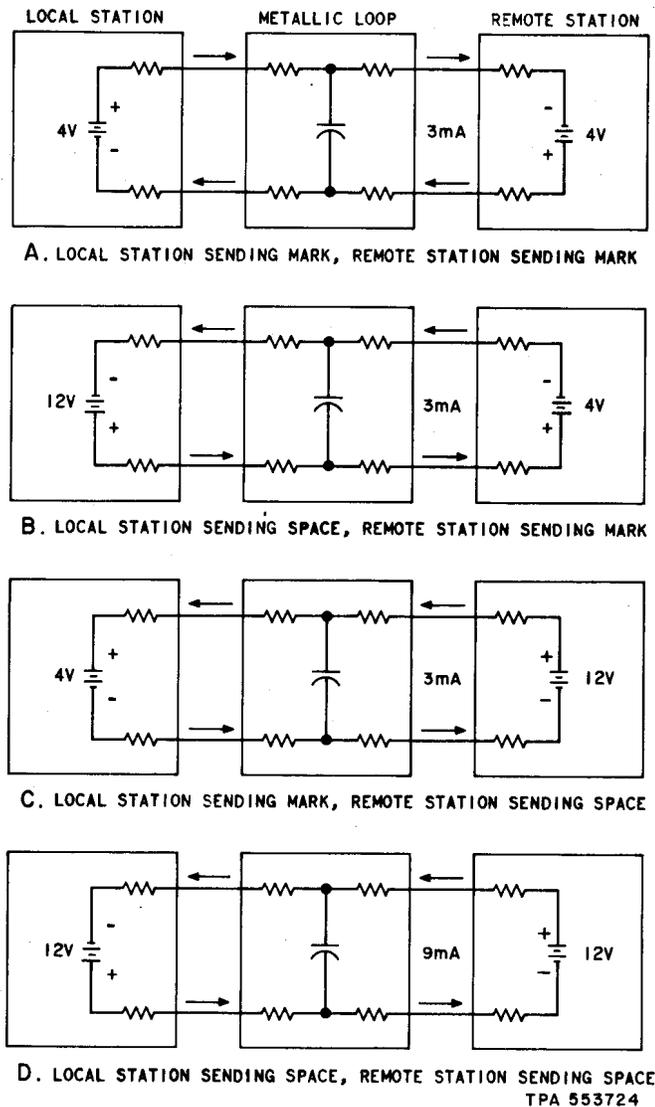

Fig. 4—Transmission States of a Data Set 109-Type, Full-Duplex (FDX) System
3.05 In transmission state 1, both data sets apply a marking voltage of +4 volts dc to the loop, resulting in a net sum of +8 volts dc around the loop. With a total loop resistance of approximately 2000 ohms, the loop current is approximately +3 mA (marking direction) around the loop (see Fig. 4-A).
marking voltage are series opposing, thereby developing -8 volts dc around the loop. A loop current of -3 mA (spacing direction) is developed around the loop (see Fig. 4-B).
3.07 When the local station transmits a mark (+4 volts dc) and the remote station transmits a space (-12 volts dc), transmission state 3 occurs. In this state, conditions around the loop are the same as in transmission state 2 (see Fig. 4-C).
3.08 Transmission state 4 occurs when both data sets simultaneously apply a spacing voltage to the metallic loop. Both spacing voltages are series aiding, resulting in a net sum of -24 volts dc and a loop current of approximately -9 mA (spacing direction) around the loop (see Fig. 4-D).